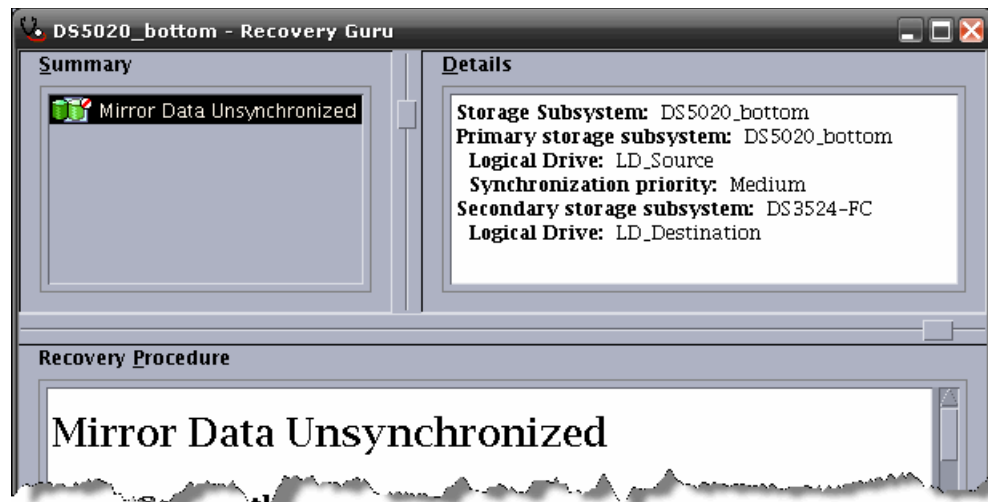

Figure 5-61 Recovery Guru: Mirror data unsynchronized
1. Click the **Recovery Guru** to resolve the condition as shown in Figure 5-61.